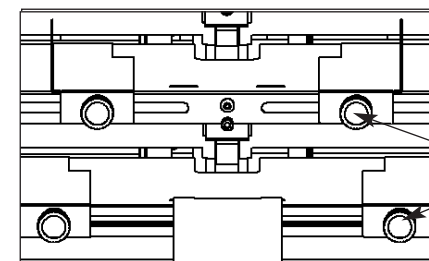

Figure 5
- Loosen the thumb knobs on the paper guides for the appropriate shelf (see Figure 5).